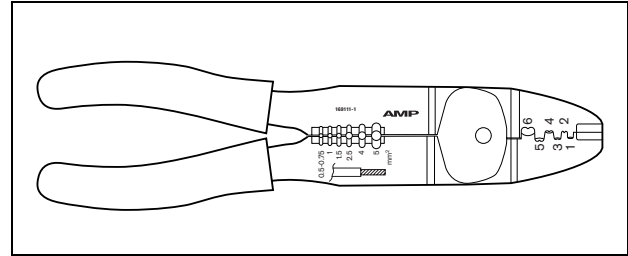

figure 19.10: Tyco AMP 169111-1 pliers
- Tyco AMP 169111-1 pliers (see figure 19.10)